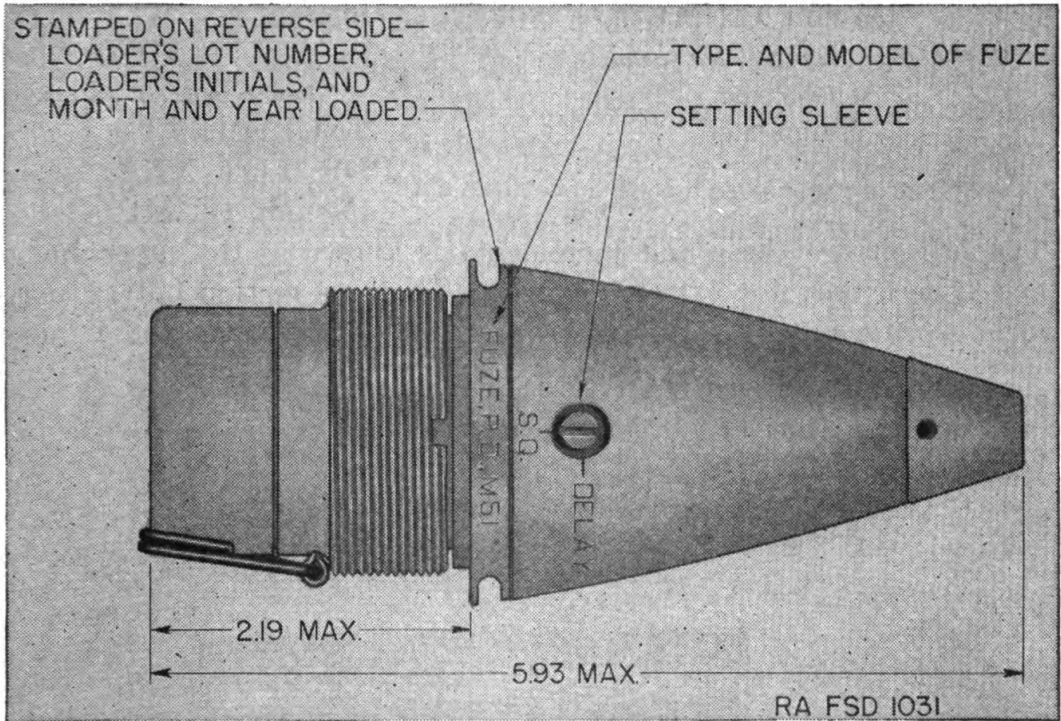

FIGURE 57.—Fuze, PD M51.
*b. Boresafe and nonboresafe fuzes.*—(1) Dependent upon the manner of arming, certain fuzes are considered to be boresafe as distinct from those which are not boresafe. A boresafe fuze is one in which the explosive train is so interrupted that, prior to firing and while the projectile is in the bore of the gun, premature action of the bursting charge cannot occur even though the more sensitive explosive elements in the fuze should function prematurely.
(2) The fuze, PD M51, described herein, is classified as a boresafe fuze.
*c. Fuze, PD M51.*—In this fuze (fig. 57), the booster, instead of being a component of the loaded projectile, is permanently attached to the fuze at the time of manufacture. The fuze contains two actions, superquick and delay. Although both actions are initiated on impact, the functioning of the shell depends upon the setting of the fuze. (When the fuze is set for delay, the superquick action is so interrupted that the projectile functions with delay action rather than be a dud.) On the side of the fuze near the base is a slotted setting sleeve and two registration lines; the one parallel to the axis is marked SQ, the one perpendicular to the axis, DELAY. As shipped, the fuze is set SQ. To set the fuze for delay action, it is only necessary to turn the setting sleeve so that its slot is alined with DELAY. (A delay pellet, 0.05 second, incorporated in delay action train, provides for the delay action.) The setting may be made or changed at will with a screw driver or other similar instrument any time before firing, even in the dark, by noting the position of the slot—parallel to the fuze axis for superquick action, at right angles thereto for delay. A cotter pin with pull ring is assembled to the booster to prevent accidental movement of the detonator